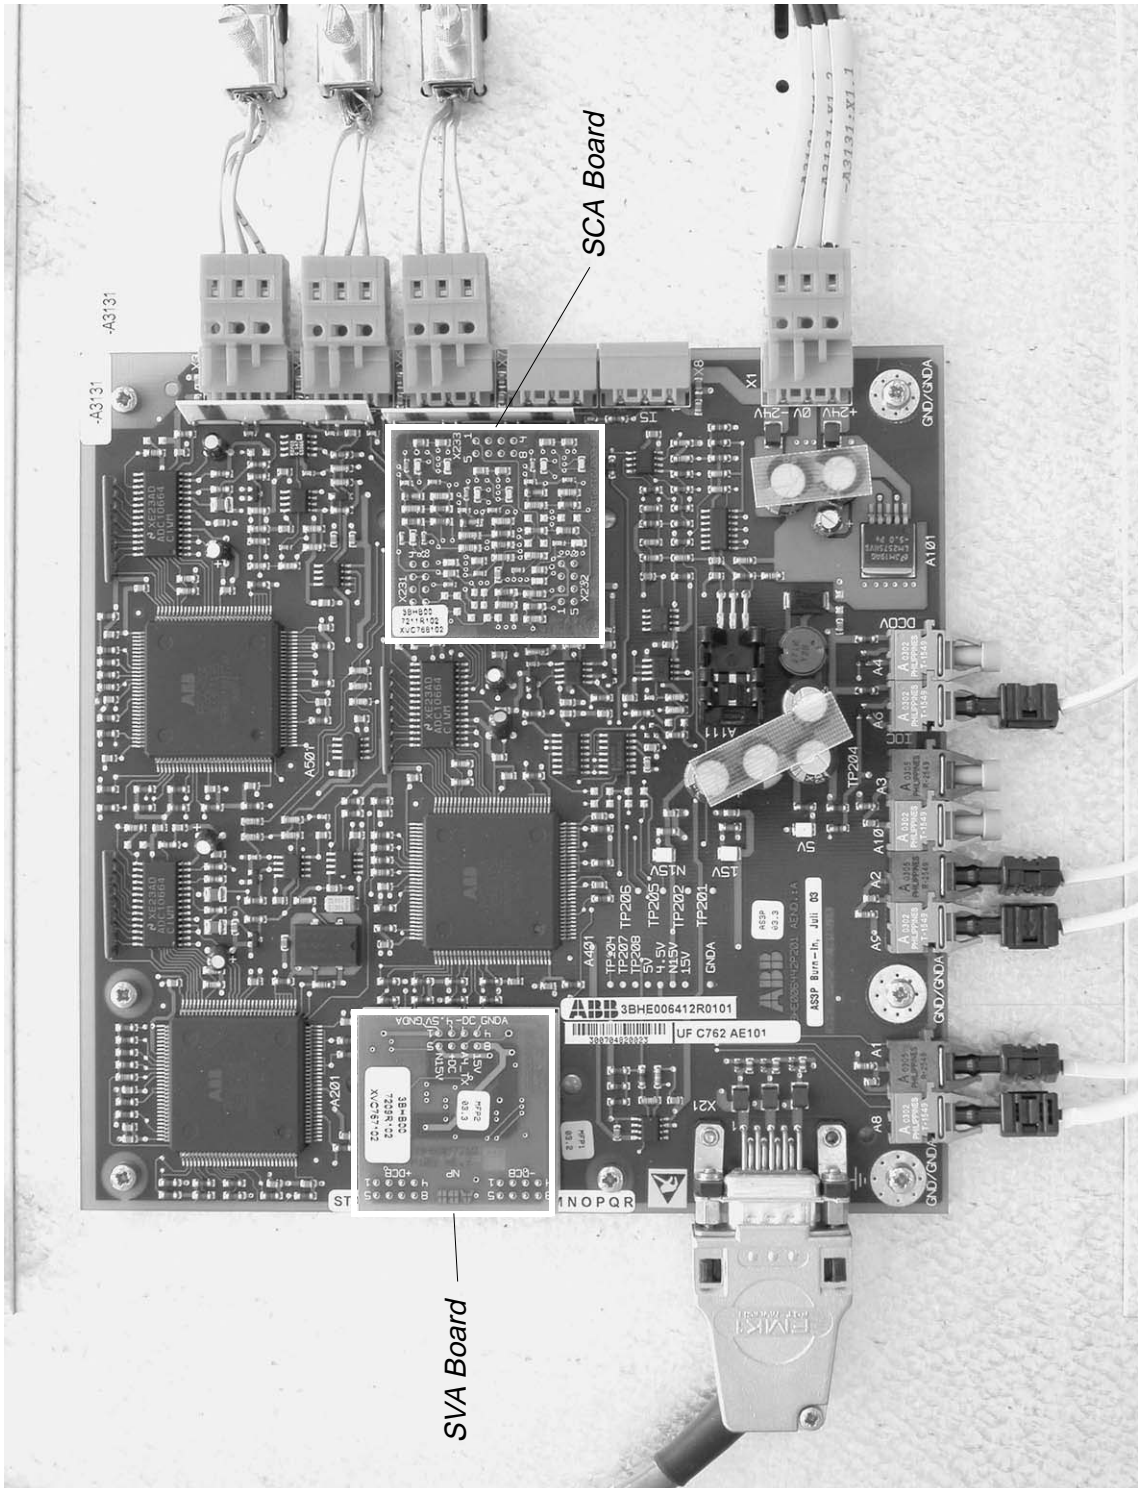

Figure 12-11 CVMI Board
- 5 Remove the CVMI board and place it on a grounded working surface protected against electrostatic discharges to transfer the SVA and SCA board to the new CVMI board. The location of the printed circuit boards can be seen in *Figure 12-11*.